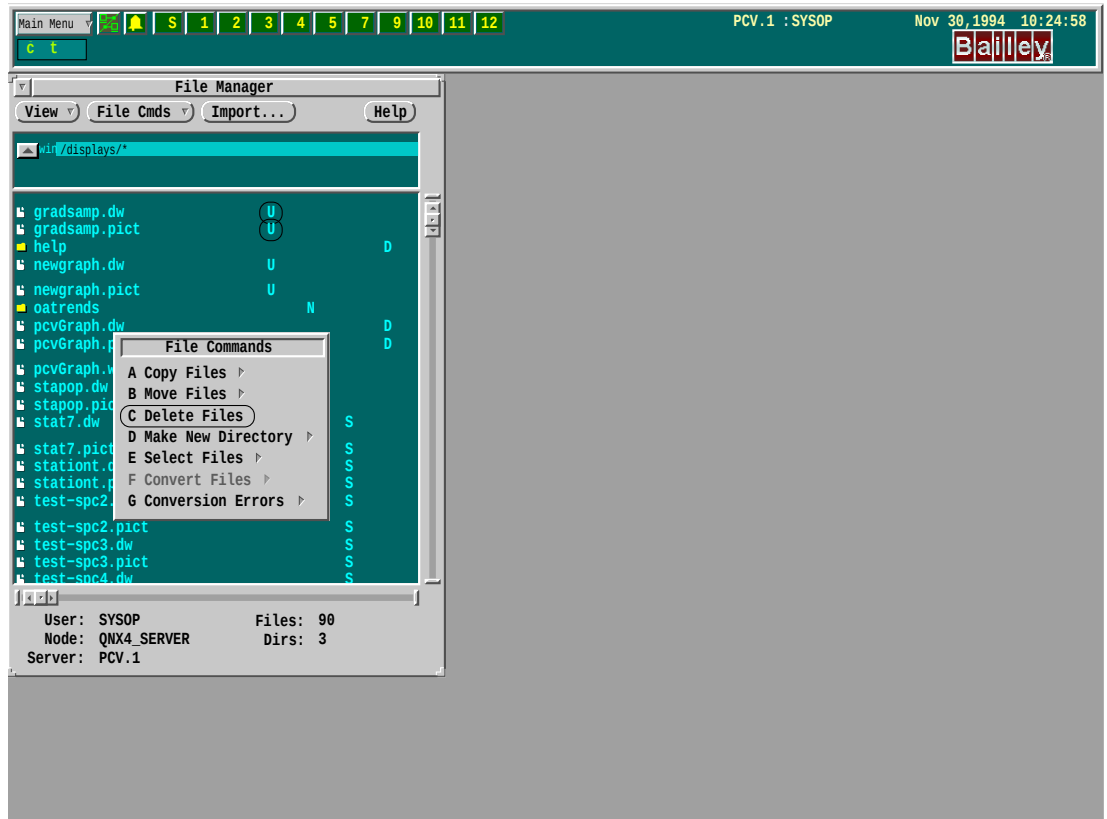

Figure 6-10. Deleting Graphic Displays
- To remove the sample, menu click on **Main Menu** on the Executive Bar, select **Configuration**, then **Graphic Configuration** and (graphic) file manager. Find “gradsamp.dw” and “gradsamp.pict”. There should be a “U” beside them to indicate they are user level displays. Click on one. Hold <Shift> down and click on the other. Now select **File Cmds**, choose **Delete** (Figure 6-10).